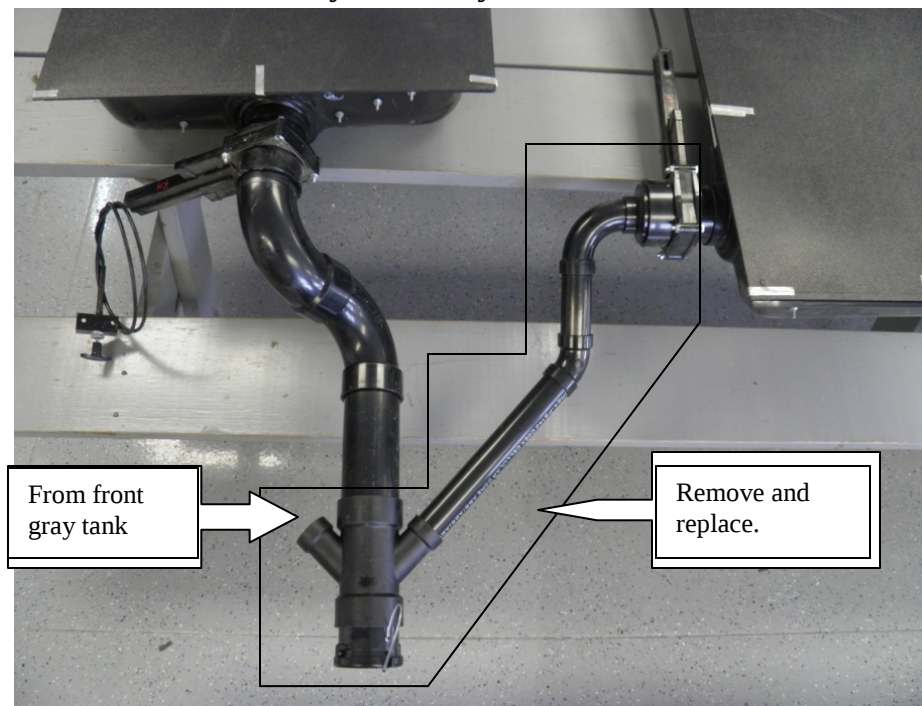

Fig. 1
**Step 3** Using industry standard practices remove and re-plumb the black holding tank drain lines. Disassemble the black tank gate valve and replace the 1 1/2 outlet side with the supplied 3" outlet. The double "Y" fitting connecting the black tank with the two gray tanks will be removed and replaced with a single input "Y" fitting. The black tank drain will be separated from the gray tanks upon completion. Refer to figure 1 and 2 for reference.